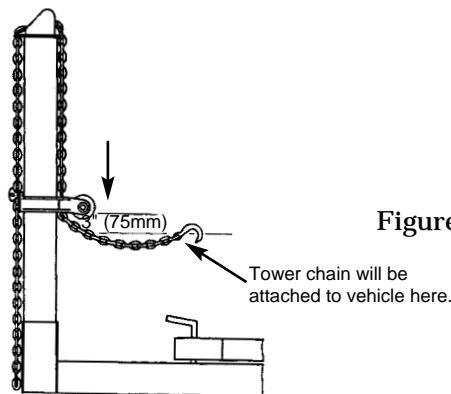

Figure 18
3. Support collar with one hand while loosening collar locking knob with opposite hand. Then position collar approximately 3 inches (75 mm) above desired pulling height and retighten collar locking knob. (See Figure 18.)